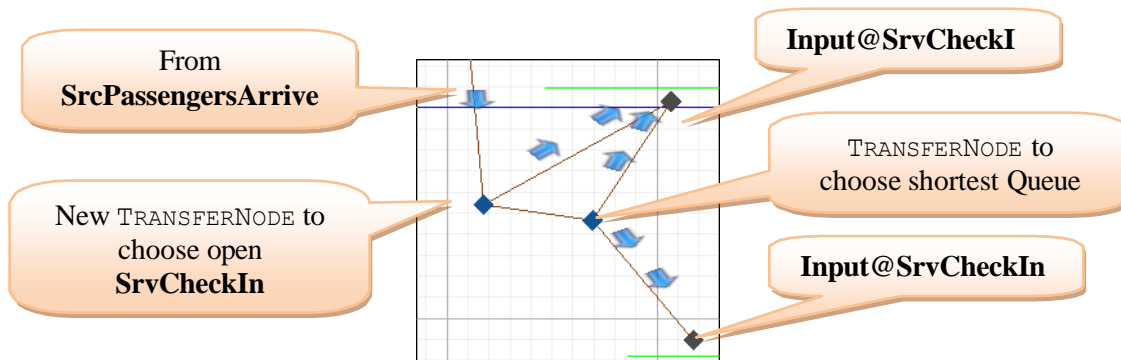

Figure 4.17: Adding Another TransferNode to Handle the Logic
Step 5: Now we need to be sure that people who choose the inside check-in only go to the **SrvCheckIn2** station if it is open (i.e., only between hours 10 and 18). This requires another **TRANSFERNODE** as seen in Figure 4.17. Connect the original **TRANSFERNODE** to the new one via a Connector and connect the new **TRANSFERNODE** to the inputs of both check-in stations.